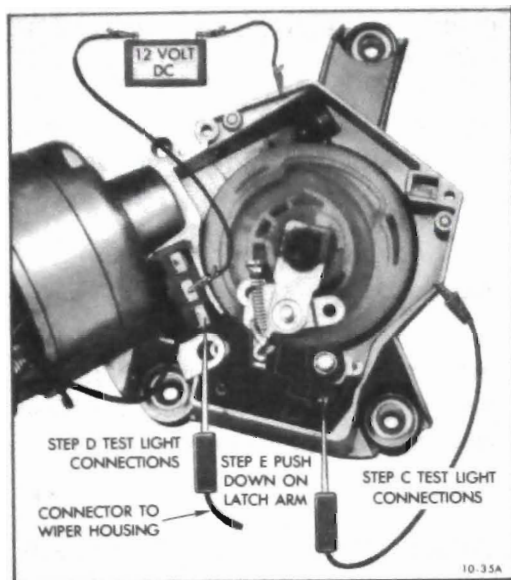

Figure 10-57 Test Light Checks
(b) Connect 12V power source to wiper - hot side to center terminal, ground side to gear housing. See Figure 10-57.
(c) To determine if wiper circuit to relay switch is complete, connect test light to relay switch terminal as shown in Figure 10-57.
(d) To determine if relay coil is open, connect test lamp to wiper Terminal No. 1, Figure 10-57.
(e) Test relay switch as follows: If gear mechanism is in full park position, use a small screwdriver in the switch slot and push latch arm down toward relay coil. See Figure 10-57. Next, remove a small amount of insulation from black lead with pink tracer and touch test lamp to exposed wire.
(a) Observe if relay latch arm spring is connected properly. See Figure 10-57.
(c) If items in "a" and "b" check out, connect power source to wiper and connect jumper wire from Terminal No. 3 to wiper housing. Figure 10-57. Do not make any connection from Terminal No. 1. Manually actuate latch arm in direction of arrow and observe if it remains in energized position (inside plastic switch housing out of patch of gear drive pawl). If it remains in energized position, check for grounded red leads from coil to Terminal No. 1. If red lead is not grounded, coil is probably
(a) Check that drive pawl and relay latch arm springs are properly connected as shown in Figure 10-57.
(1) Remove small amount of insulation from black lead with pink stripe and connect test light between exposed wire and wiper housing.
(2) Connect power source and jumper to wiper as shown in Figure 10-57 and observe if test light goes out once for each revolution of gear or if light glows steady. If light glows steady, relay switch contacts are not opening and switch is defective. If light goes out each time drive pawl moves into relay switch slot relay switch is functioning correctly.
(a) Check for grounded condition in the internal black lead that connects to wiper terminal No. 3. Refer to Figure 10-57 for Terminal No. 3 location.